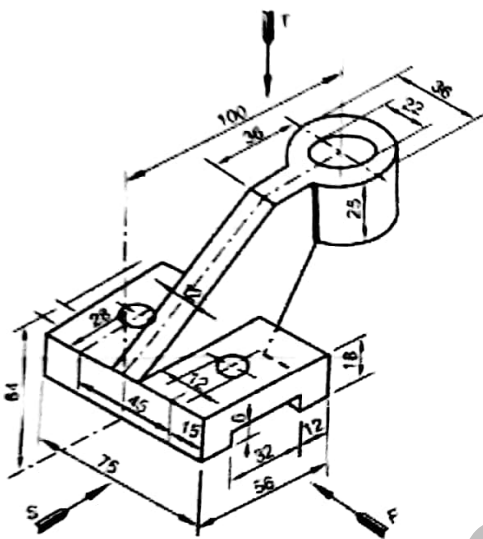

Fig 3
- IX. Figure 3 shows the sketch of a casting. Draw the following views. (9)